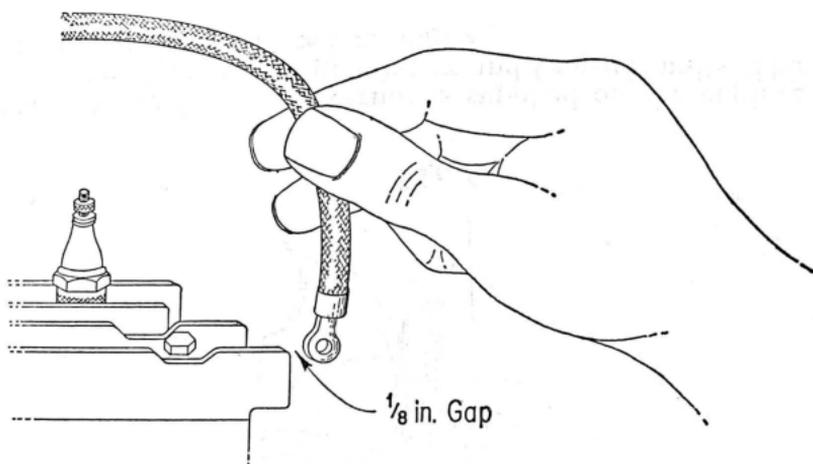

Fig. 8
- (1) Remove the ignition cable from the spark plug.
- (2) Grasp the ignition cable well back from the metal cable terminal to avoid shock and hold the tip about 1/8 inch from the cylinder head as illustrated in Fig. 8.
- (3) Crank the engine and if a good spark jumps the 1/8-inch gap, the ignition system up to the spark plug is in good condition. If a good spark is not observed, proceed with Step (4).